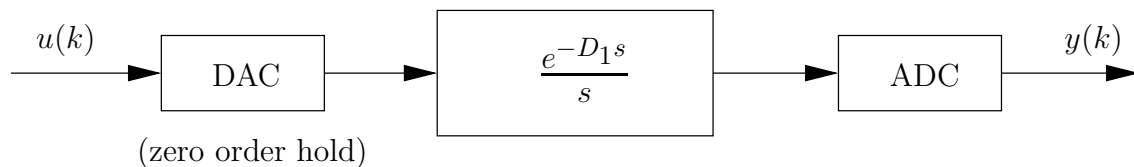

Figure 2: ADC/DAC arrangement for discretization
- Consider the discretisation of blocks with time-delays. Consider the continuous-time plant $G(s) = e^{-D_1 s}/s$ placed in the arrangement illustrated in Figure 2. Find the discrete-time transfer function from $u(k)$ to $y(k)$. The DAC is a simple zero order hold, and you may assume that the ADC and DAC operate synchronously with sampling period T (Hint: You may find it useful to write $D_1 = nT + D_0$ where n is an integer and $0 \leq D_0 < T$).